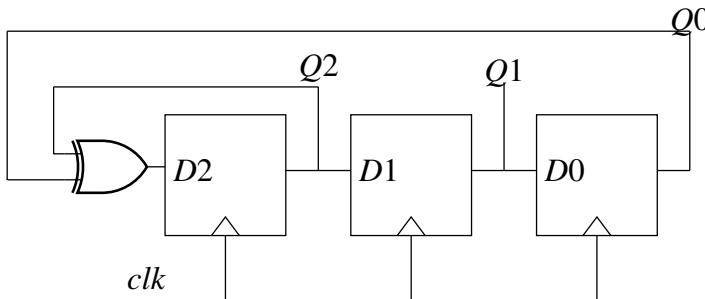

Fig. 5.3
3. In the circuit in Fig. 5.3, the clock(Clk) frequency provided to the circuit is 500MHz. Starting from the initial value of the flip-flop outputs $Q2Q1Q0 = 111$ with $D2 = 1$, find the time after which $Q2Q1Q0 = 100$. (GATE EC 2021)